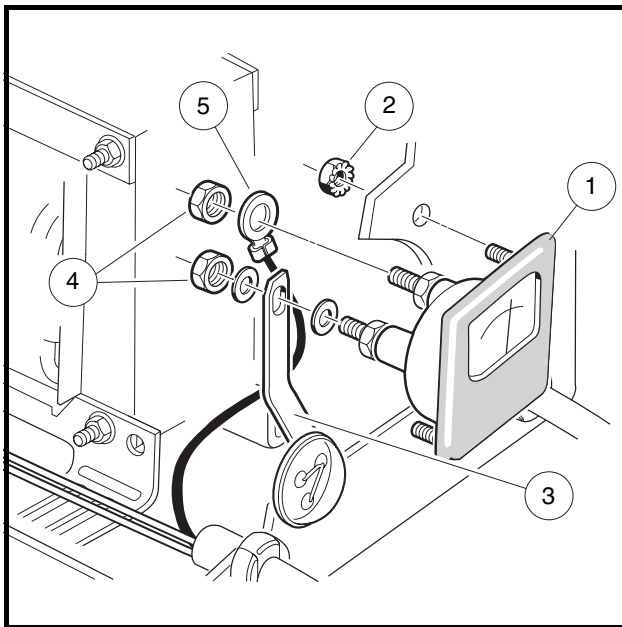

Figure 6-19 Ammeter
3. Using two wrenches to prevent the posts from turning, disconnect the DC cord black wire (5) and the buss bar (3) from the ammeter (**Figure 6-19, Page 6-27**).
4. Remove the two nuts (2) that secure the ammeter to the charger face.
1. Place the ammeter in position in the charger face (**Figure 6-19, Page 6-27**).
2. Install nuts (2) and tighten until ammeter is firmly secured.
3. Connect the DC cord black wire (5) to the left (as viewed from inside the charger) post of the ammeter.
4. Connect the buss bar (3) from the fuse link to the right post of the ammeter. Place flat washers on both sides of the buss bar.
5. Thread nuts (4) onto both posts of ammeter until just past finger tight. While holding the inside nut, tighten the outside nut (4) 1/4 turn. **See following CAUTION.**
3. Remove both black secondary coil transformer wires and the buss bar (3) from the back of the fuse link assembly (**Figure 6-19, Page 6-27**).
2. Install the buss bar (3) over the center branch of the fuse assembly and ammeter post (**Figure 6-19, Page 6-27**). Tighten to 22 in-lb (2.5 N·m).